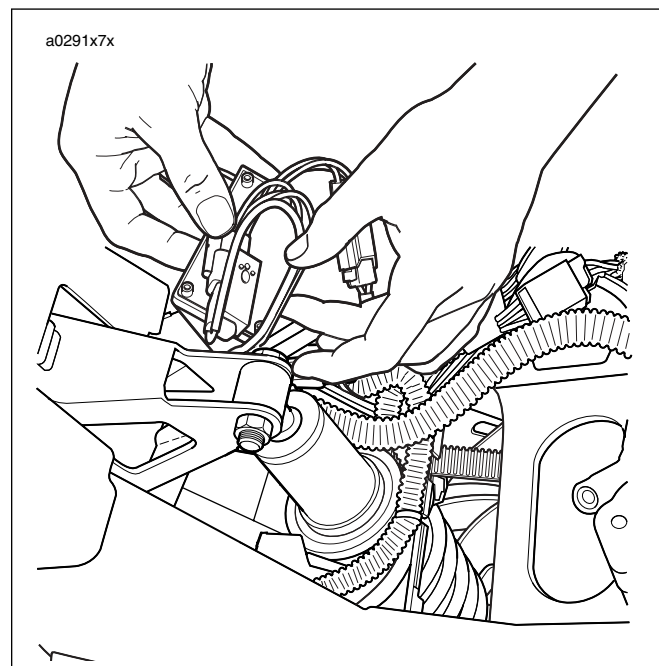

Figure 5. Looping Wire Harness
4. See Figure 5. Loop cable over backside of recalibrator making sure there is some slack in speed sensor wire harness on sensor end.